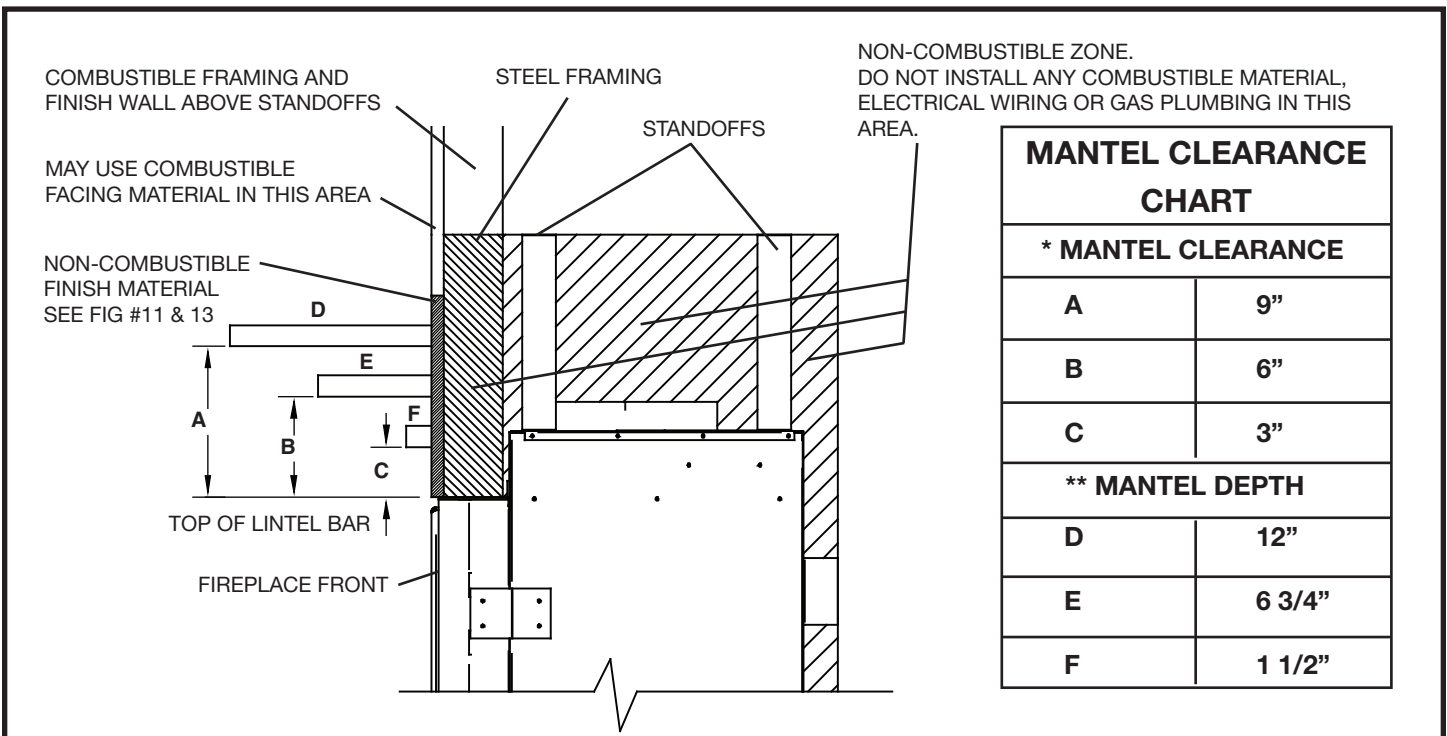
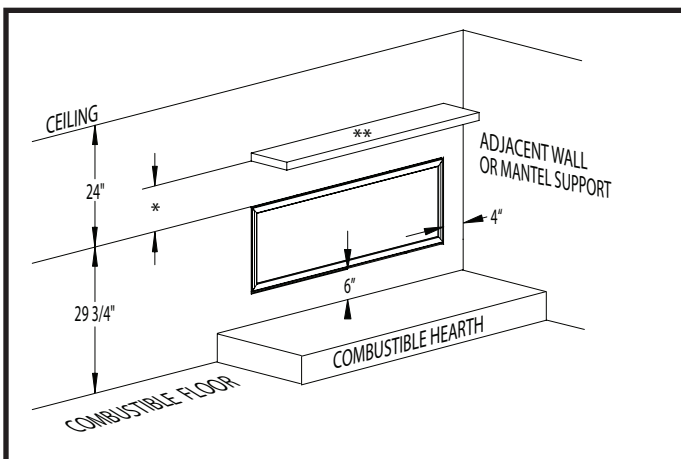

Figure 2: TCWS54D Mantel clearances.
Figure 3: TCWS54D Minimum mantel clearances.
**The minimum clearances from the fireplace to combustible surfaces must be adhered to and are shown in Figure 2 and Figure 3.**